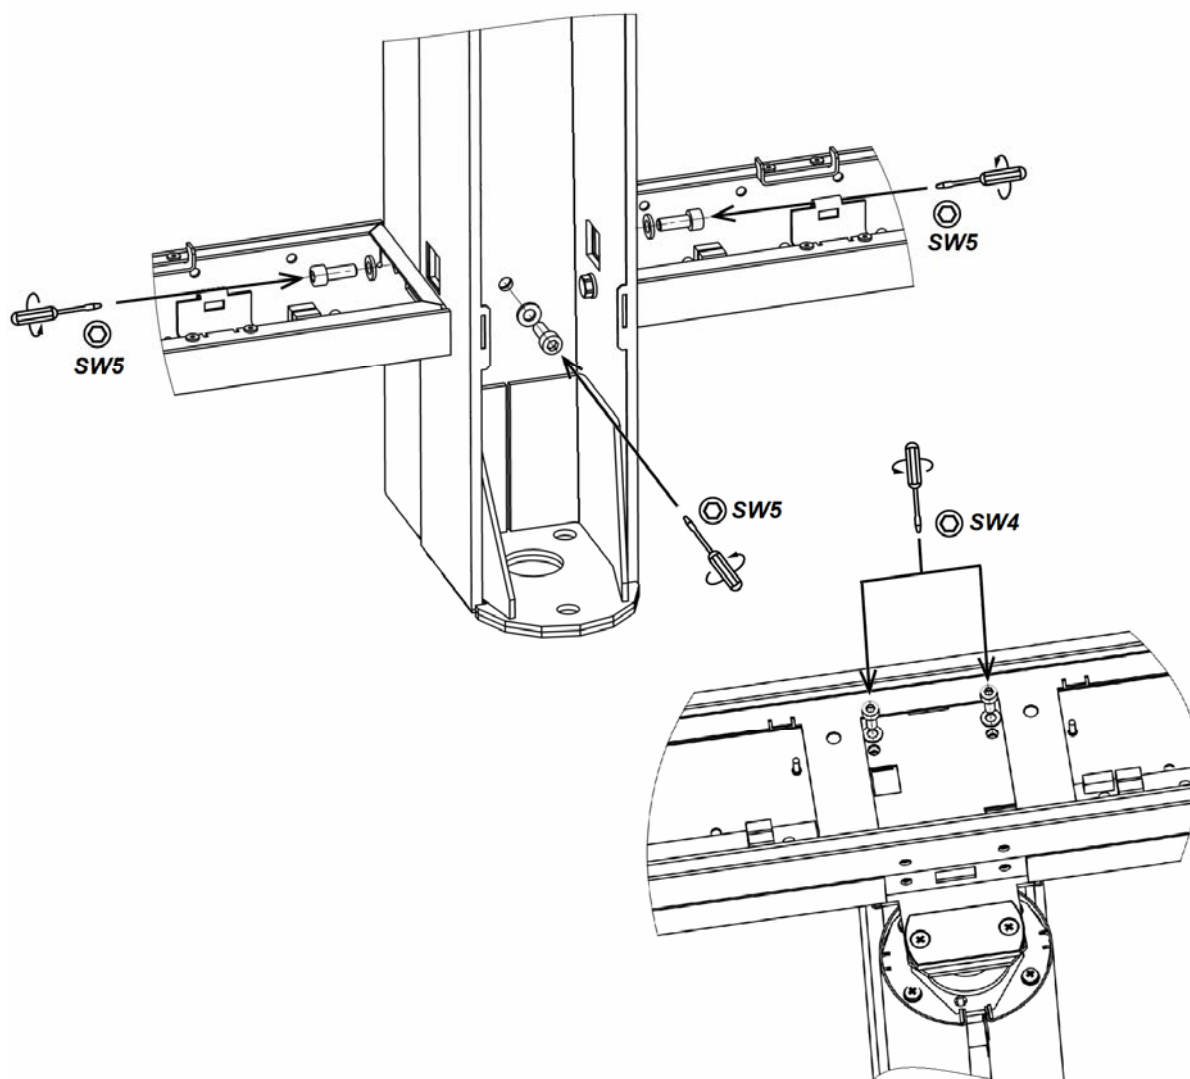

Figure 29. Central post back panel disassembly
1. Remove the section top cover (10) (Section 8.8.7).
2. Remove the indication module of the central post (3) (Section 8.8.6).
3. Remove the left part of the swing panel cover plate (4) (Section 8.8.5).
4. Remove the central post cover plate (5), turning the swing panel to the extreme right position (Section 8.8.1).
5. Remove both covers from the bottom duct (14) (Section 8.8.8).
6. For the ID Gate 8500 section: remove the central post back panel (6). Untwist 2 M6×16 screws (for SW5 hexagon) in the bottom ducts, M6×16 screws (for SW5 hexagon) at the bottom of the central post and 2 M5×12 screws (for SW4 hexagon) in the top duct (Fig. 29).